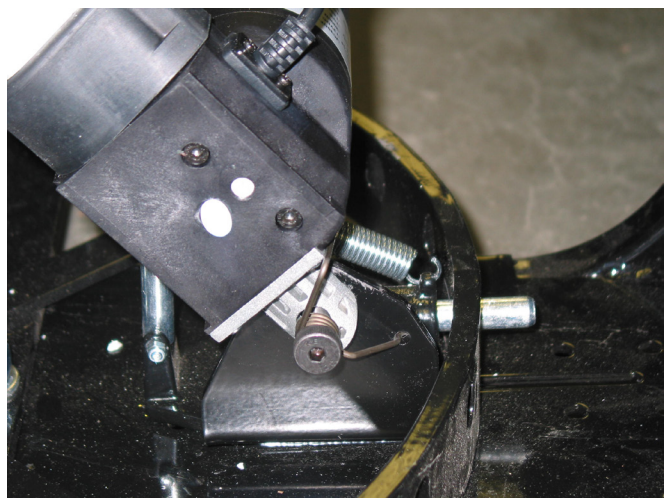

Figure 3
3. The actuator support spring, shown in Figure 3, is to be installed on the M10x40mm shoulder bolt. Hook one end of the spring into the mounting bracket with the actuator rotated forward. The other end will rest on the mounting shackle. The spring is used to push the plow lift away from the vehicle when plow is on the ground.